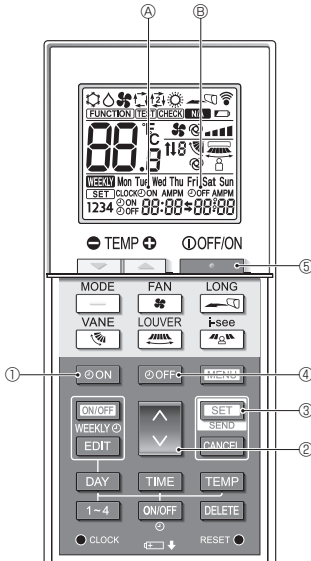

Fig. 4-2
4.5. Using the on/off timer (Fig. 4-2)